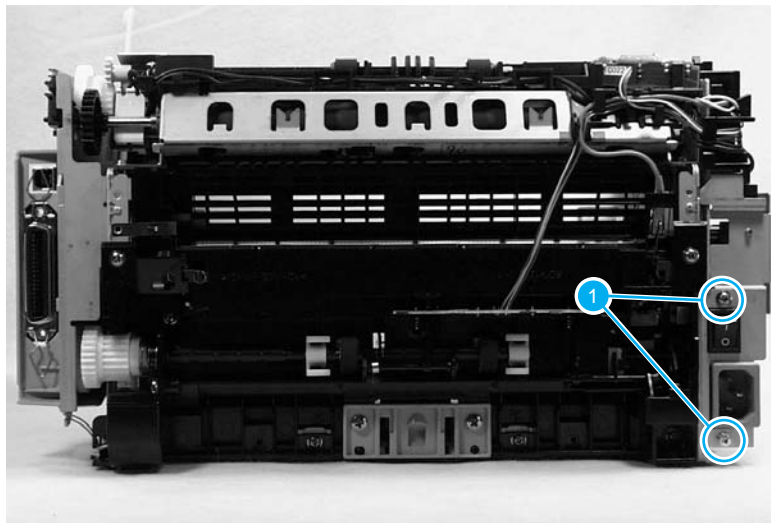

Figure 5-21.
8. Remove 2 screws from the back of the printer (callout 1, figure 5-21).